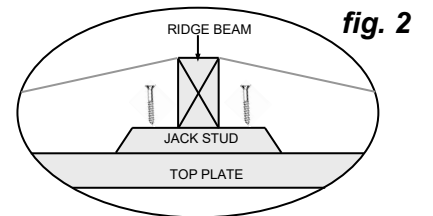

fig. 2
Use the 50mm Clouts only on ribs covered by flashings, shown on pg 13 fig.2. Pre-drill holes using a 3.5mm drill bit. Use Roofing Screws on all other ribs. Ensure screws are not overtightened as this can damage the seals and cause the shed to leak.
- Secure with 2 x 75mm screws through the top of the Jack Studs into the Timber Top Plate (fig. 2).